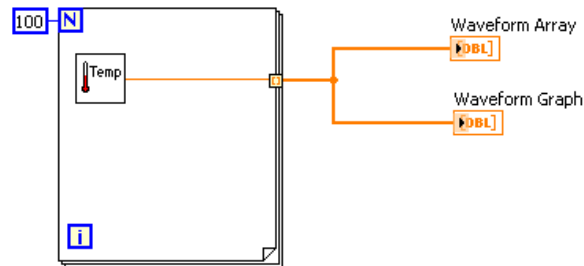

Figure 7.17
1. Build the block diagram shown in Figure 7.17.
- (c) Wire the block diagram as shown in Figure 7.17.